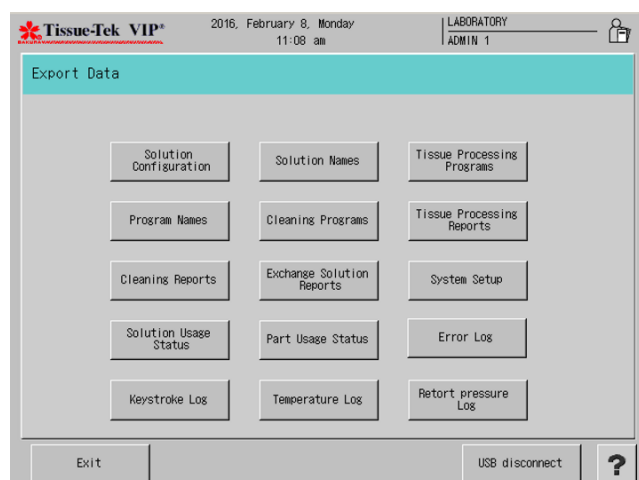

Figure 3-Z
- The Export Data screen displays (Figure 3-Z).